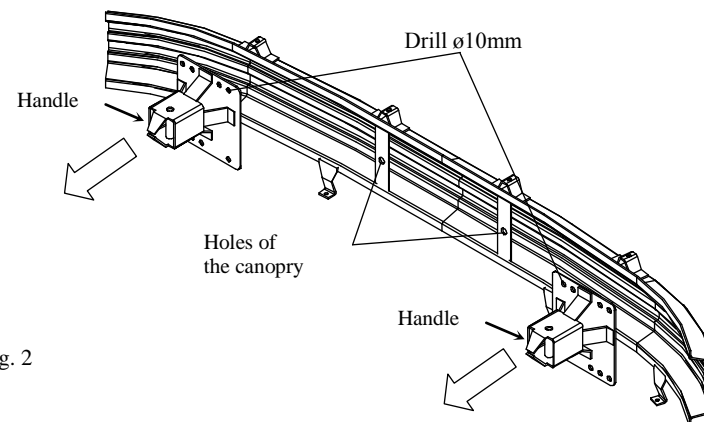

Fig. 2
1. Disassemble the bumper and metal canopy. From the metal canopy one ought to separate handles, therefore one ought to drill holes $\varnothing 10\text{mm}$ in points of the pressure welding, as showed on the fig. 2. Fix the canopy to the bumper after separating the handles.